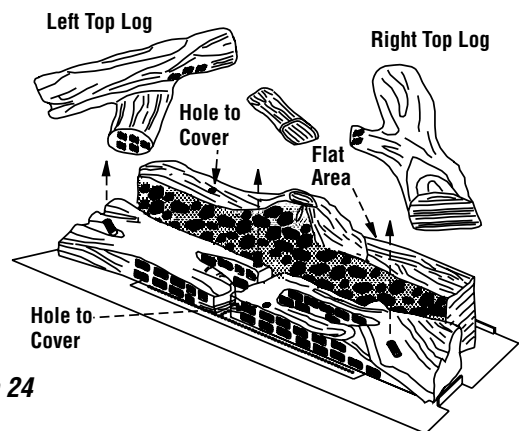

Figure 24
5. The small straight top twig (3021) should be turned so the black flat end is turned toward the rear. Slide the holes in the bottom of this twig over the right peg on the left front log and the hole on the right front log. See **Figure 24**.
6. The left top log (3019) should be positioned as shown in **Figure 24**. Slide the holes in the bottom of this log over the hole in the left end of the rear log and the peg in the left end of the left front log. The right top log (3020) should be positioned as shown in **Figure 24**. Slide the holes in the bottom of this log over the peg in the right end of the right front log and rest it on the flat spot on the rear log.